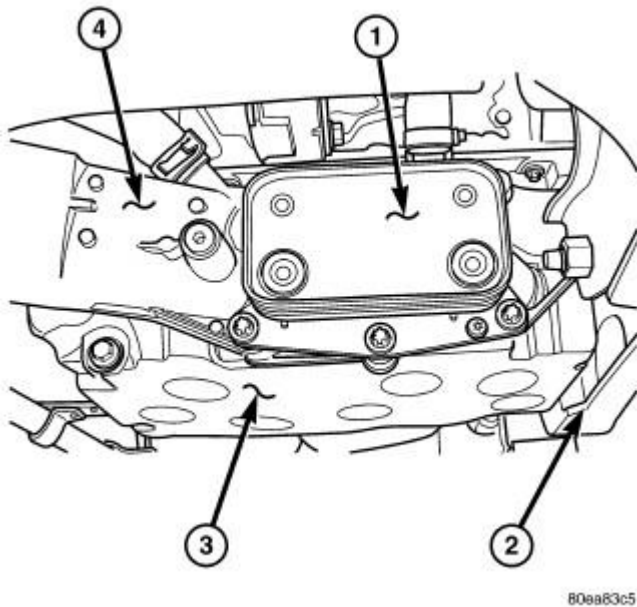

Fig. 197: Oil Cooler/Filter Assembly
10. Remove oil cooler/filter assembly (1,4) retaining bolts and reposition assembly out of way. See **Fig. 197**.